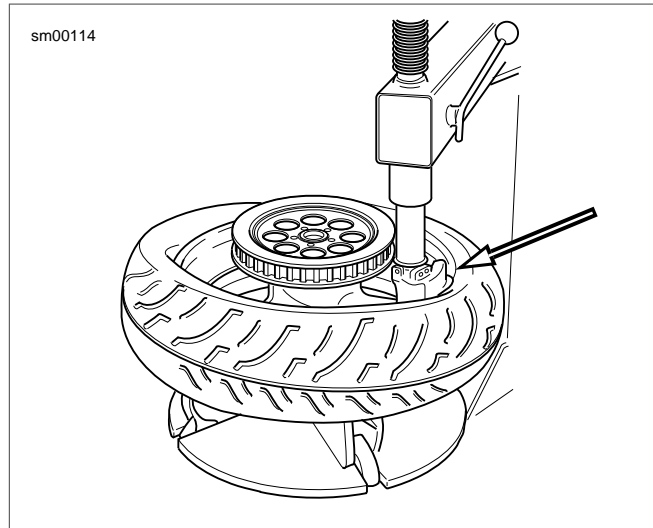

Figure 2-27. Pry Bead Over Rim Edge
5. See Figure 2-27. Push lower bead into rim well on one side and insert tire tool underneath bead from opposite side. Pry bead over rim edge. Remove tire from rim.